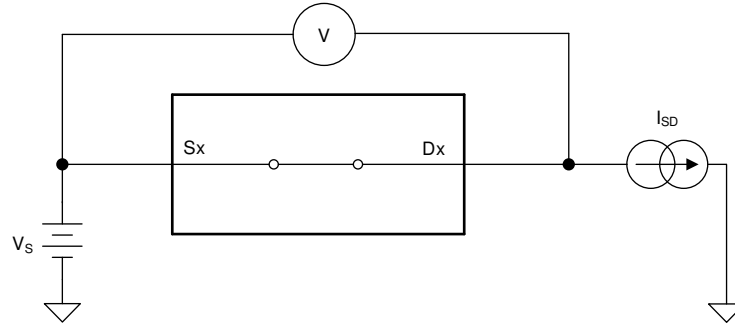

图 17. On-Resistance Measurement Setup
The on-resistance of a device is the ohmic resistance between the source (Sx) and drain (Dx) pins of the device. The on-resistance varies with input voltage and supply voltage. The symbol R_{ON} is used to denote on-resistance. The measurement setup used to measure R_{ON} is shown in 图 17. Voltage (V) and current (I_{SD}) are measured using this setup, and R_{ON} is computed as shown below with $R_{ON} = V / I_{SD}$: